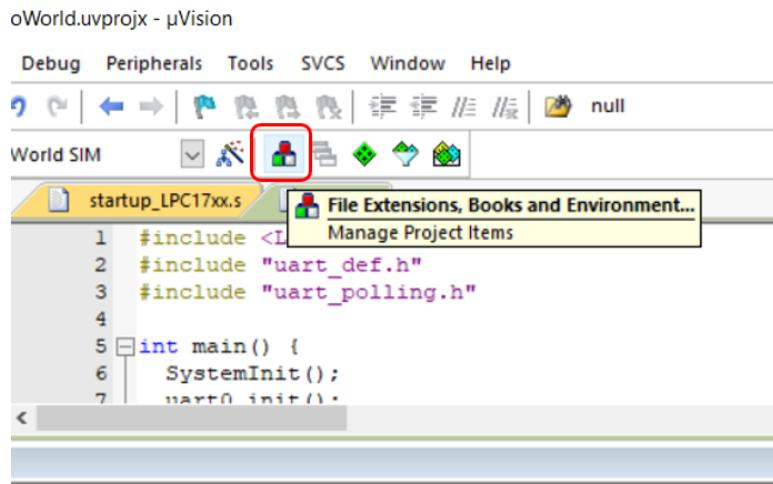

Figure 9.23: Keil IDE: Manage Project Items Button
1. Press the Managing Project Item button (see Figure 9.23).